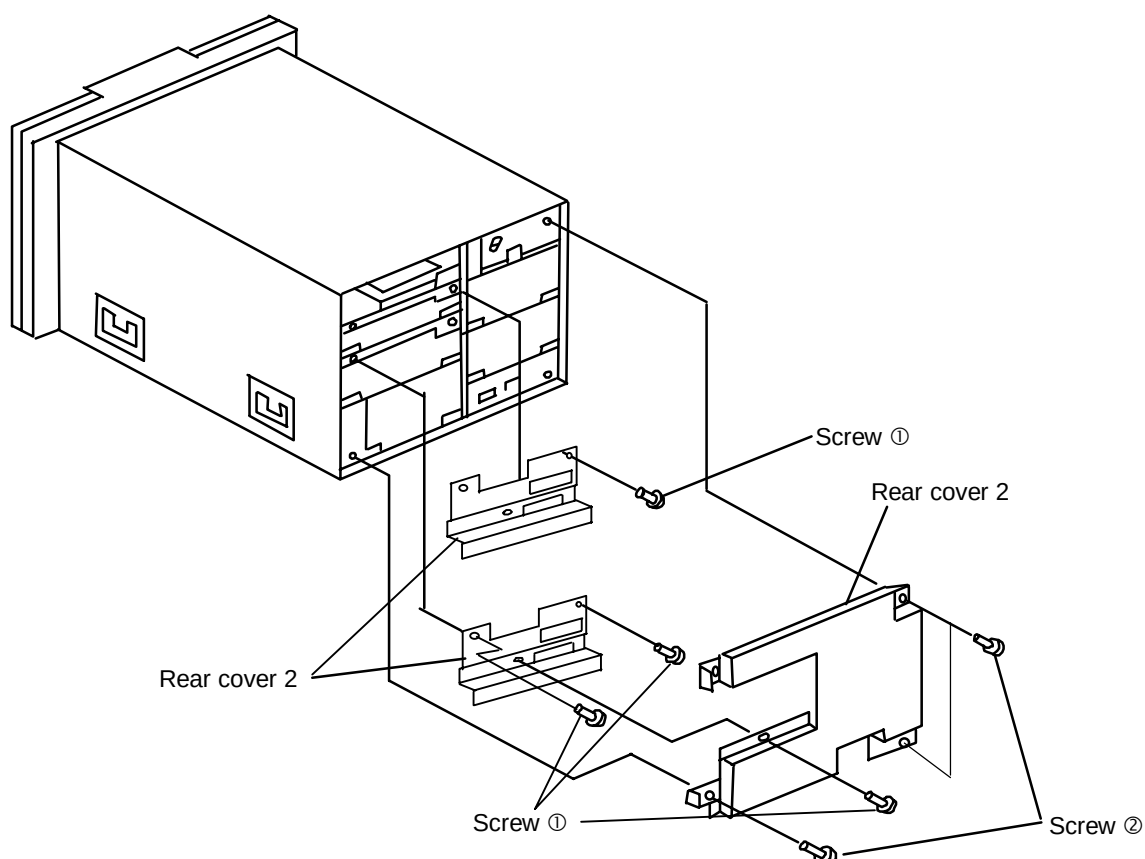

Figure 3.2.3 Attaching and Removing Rear Covers
(1) Removing procedure (See Figure 3.2.3.)
① Remove four screws ② and one screw ① of the rear cover 1.
② Remove four screws ① of each the two rear covers 2.
(2) Attaching procedure (See Figure 3.2.3.)
① Install the rear covers 2 and 1 in this order, by reversing the procedures for removal.